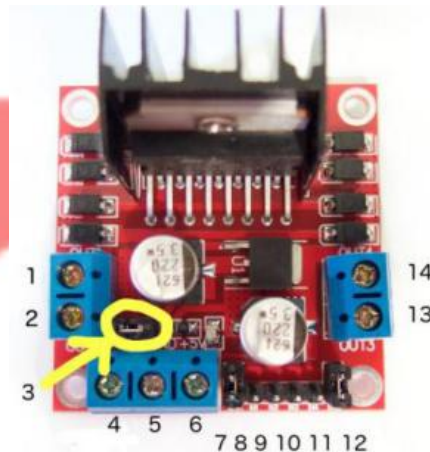

Figure 2: L298N Motor Driver
**Note:** Make sure that the 12V jumper is in place and DC motor enable jumper 1 and jumper 2 (7 and 12 in Figure 2) are removed.
5. Connect the motor board you have previously made to the motor driver in pin number 4 and 5 (Figure 2). Make sure that you are connecting the Vcc end of the power supply distribution circuit to pin number 4 and the GND end to pin number 5. Plug in the DC Jack into the ATmega Development board's socket. Plug in the power supply to the DC Jack socket of the distribution circuit.